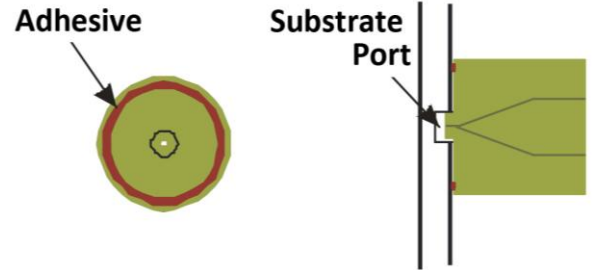

Figure 6. Bonded port glue application and alignment.
2. Using a small wire or piece of fused silica capillary apply the epoxy mixture to the outer edge of the bottom of the bonded port connector (Figure 6).
3. Align centering nub with center of via hole in chip (Figure 6).